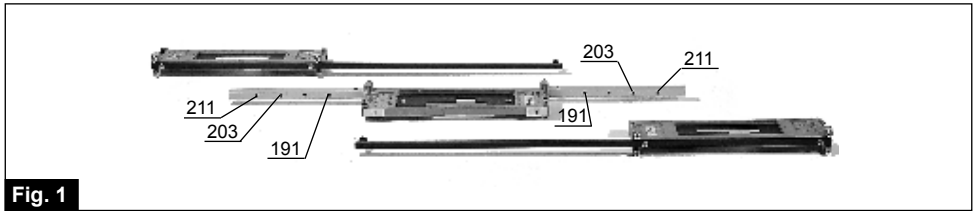

Fig. 1
3. MONTAJE DEL PORTAPLANTILLAS (Fig. 1)
3. MOUNTING THE TEMPLATE (Fig. 1)
3. MONTAGE DU PORTE-GABARIT (Fig. 1)